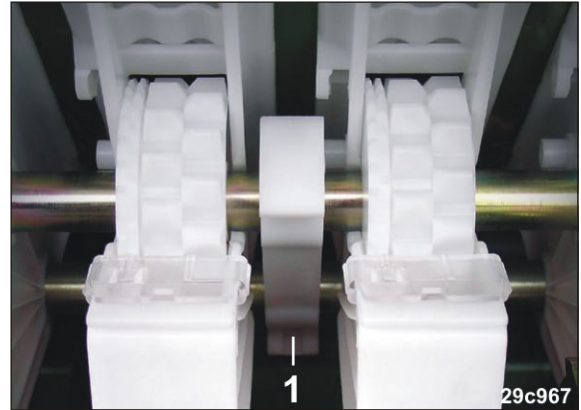

Fig. 228
3. Open the seeding shaft contact pressure bearings (Fig. 228/1).